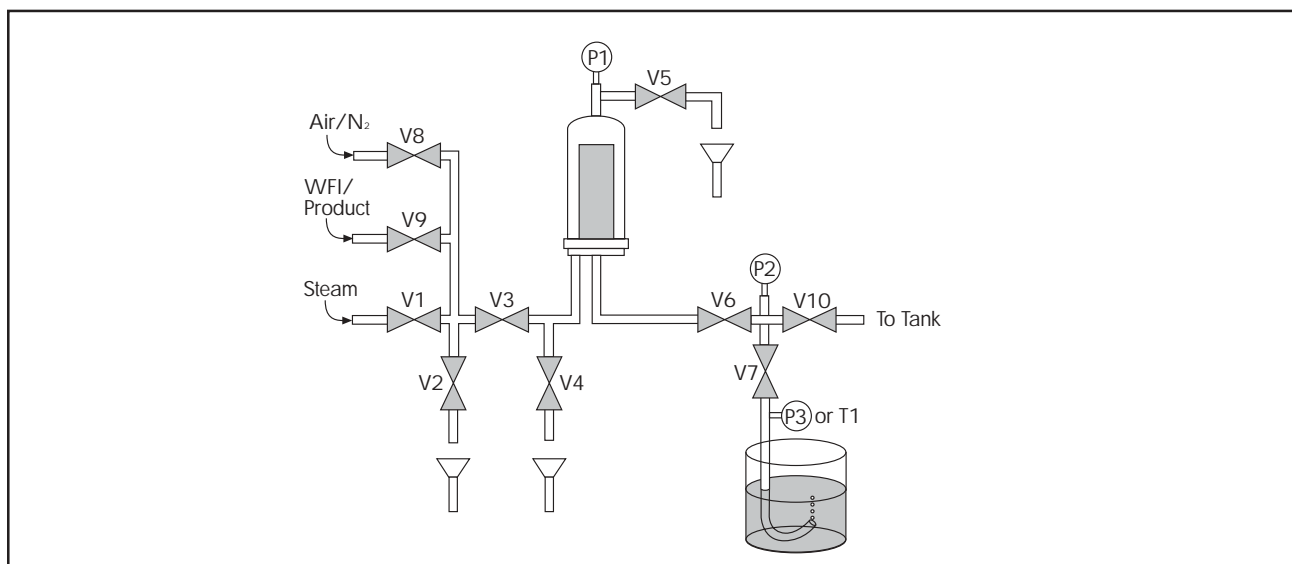

Figure 4-4: Typical sterile filter cartridge and housing assembly for bubble point test
1. Allow excess wetting fluid to flow out of the down stream side of the system. (Open V8, V3, V6, and V7.) Refer to Figure 4-4.